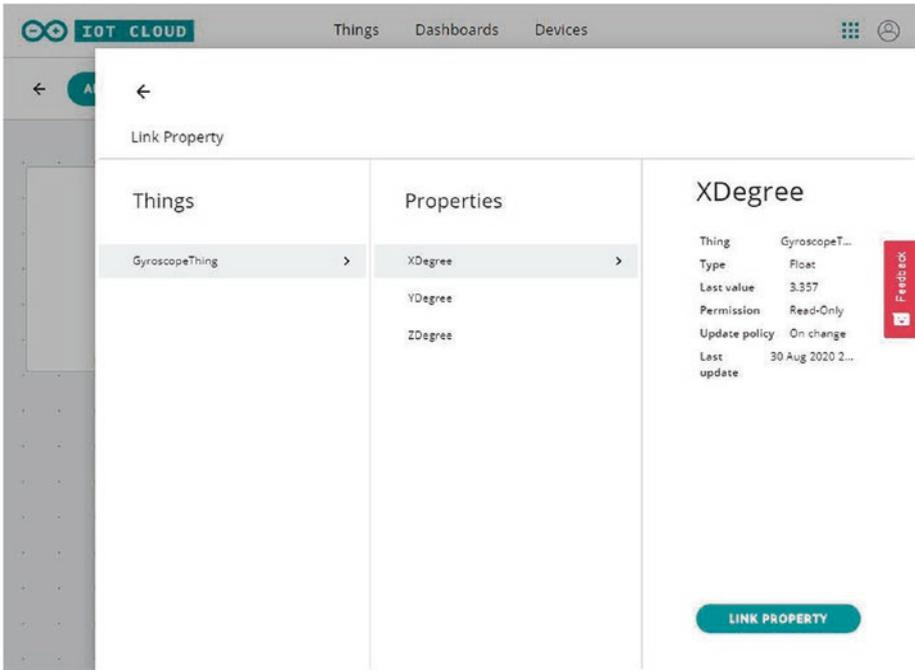

Figure 5-22. Linking a property to a widget
- Each value widget is to be linked to each Thing Property, as shown in Figure 5-22.